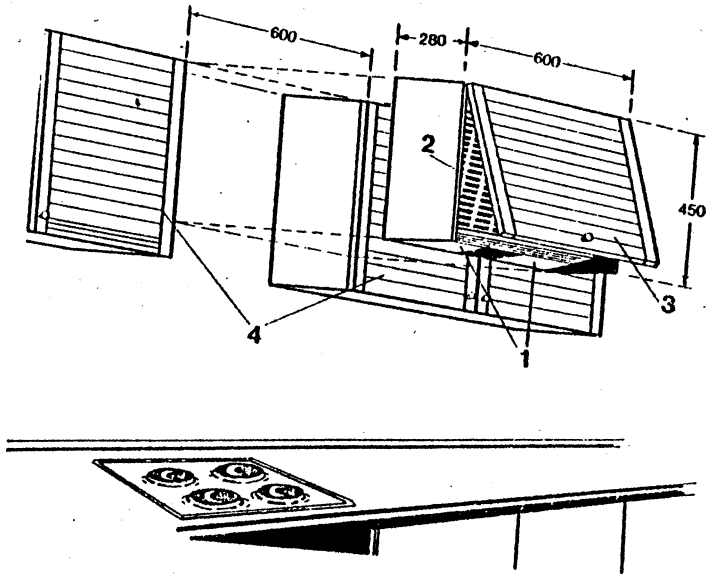
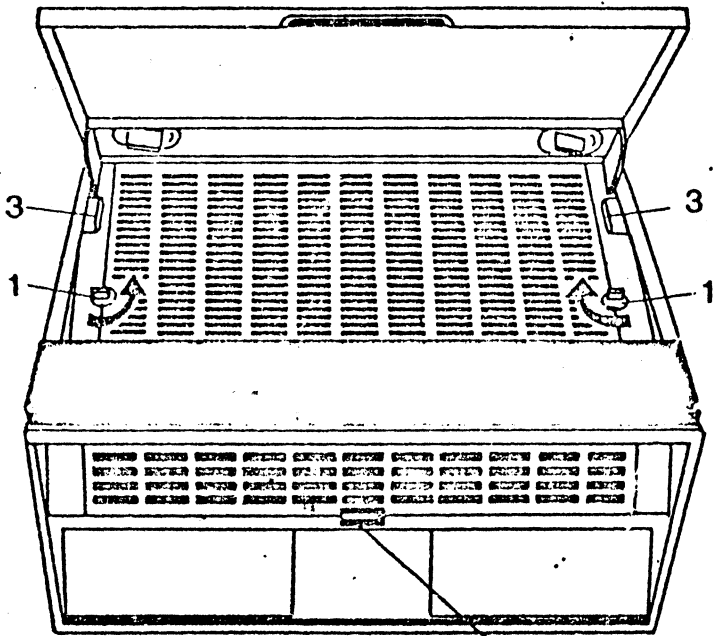
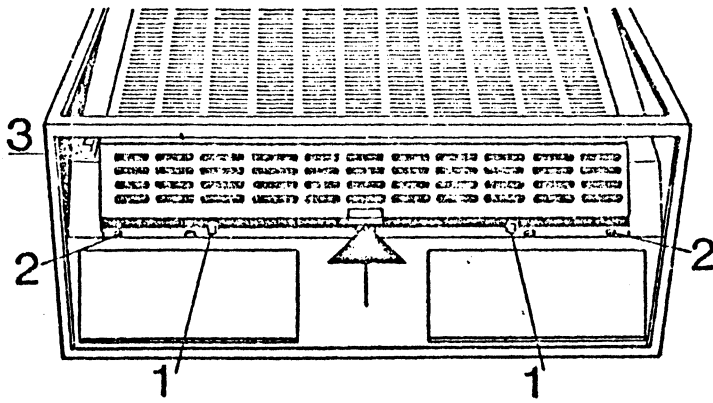

Abb. 1
Abb. 10
Abb. 11
1. Hold grease filter frame on tag (Figs. 10/2 and 11), tilt slightly forward, lift upwards from lower locks (Fig. 11/1) and remove downwards from appliance.
4. Remove the screws Fig. 11/2 and lift off the light cover.
By opening out vapour guide Fig. 1/3 you switch on the fan stage on. Continue to pull out the vapour guide until, in mid-position, fan stage two comes on and shortly before its limit position fan stage three. When closing the vapour guide the relevant fan stage remains switched on until shortly before the OFF position. The light is switched on with the switch Fig. 11/3.
3. Turn the retaining eccentric (fig. 10/1) by 180° to the left or right; holding the filter frame tight whilst doing this.
4. Hold the filter frame by the grip (figs. 10/2 and 11), tilt it slightly forward, lift it from its bottom catches (fig. 11/1) and remove it downward from the cooker hood itself.